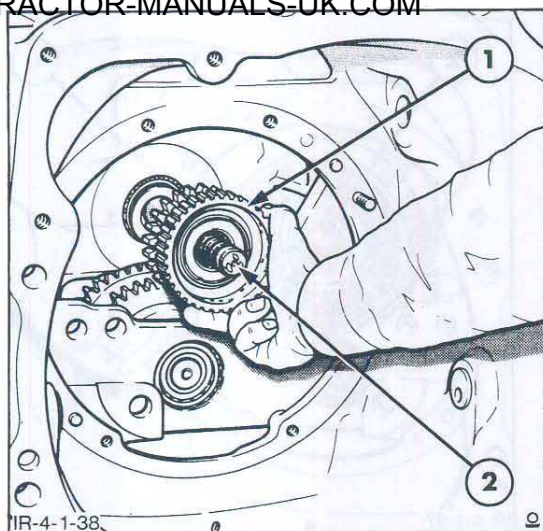

Figure 39
4. Remove the reverse idler input gear, thrust washer, needle bearings and shims from the rear input shaft, Figure 39, if not removed with the clutch housing.